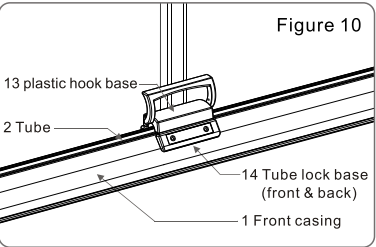

Figure 10
2.Remove the handle from the fastener at the top of uphold bar .Grasp the handle, lower the screen to allow it retract into the case . Be sure the handle base connected with tube lock base. (Figure 10)